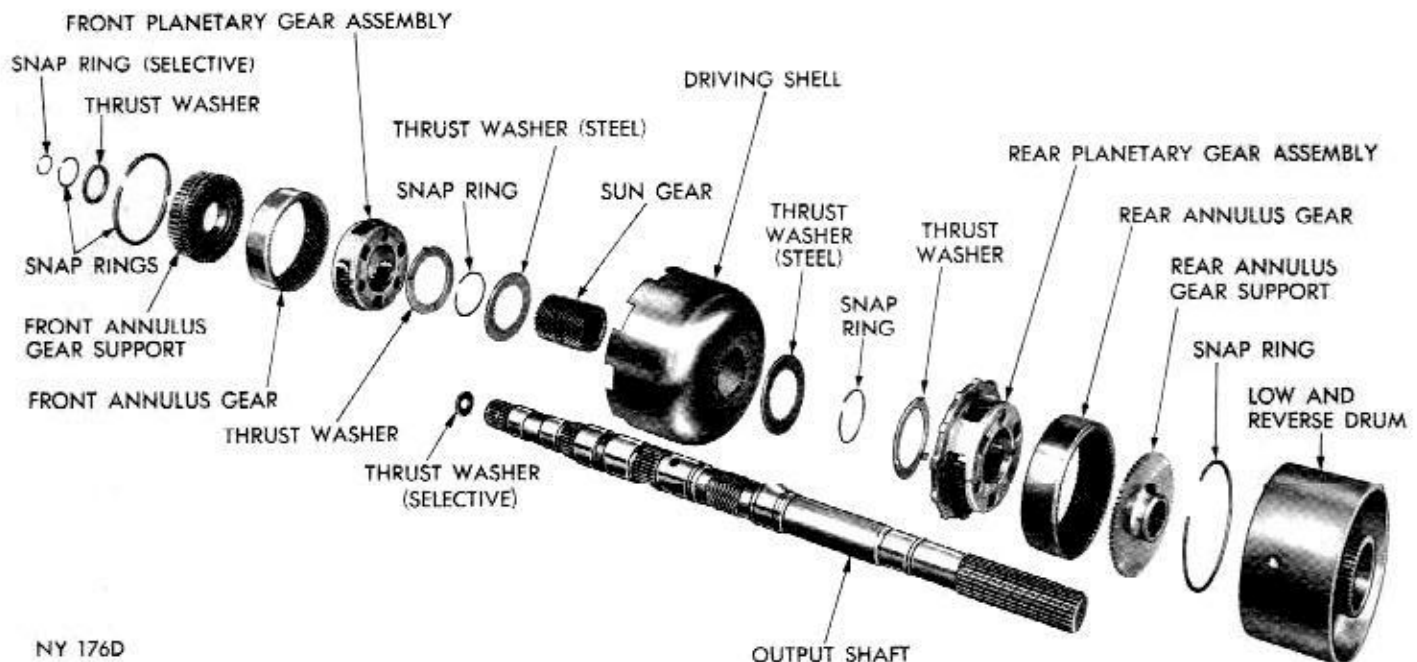

Fig. 71—Planetary Gear Train and Output Shaft Disassembled (A-904)
- (1) Remove selective thrust washer from forward end of output shaft (Fig. 71).
- (2) Remove selective snap ring from forward end of output shaft, then slide front planetary assembly off the shaft.
- (3) Remove snap ring and thrust washer from forward hub of front planetary gear assembly, slide front annulus gear and support off planetary gear set (Fig. 71). Remove thrust washer from rear side of planetary gear set. If necessary, remove snap ring from
Refer to Figure 71 for parts reference.